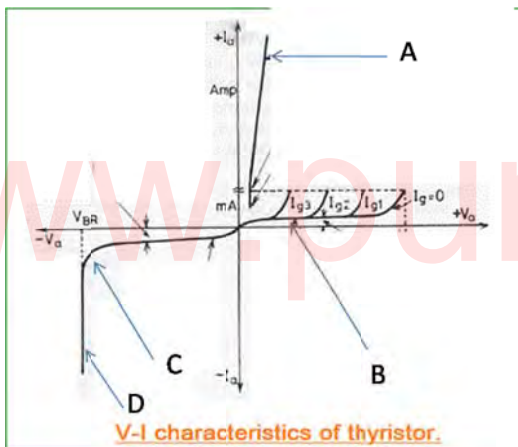

Figure 1
- a) Name the regions indicated by letters A, B, C and D in the figure 1.